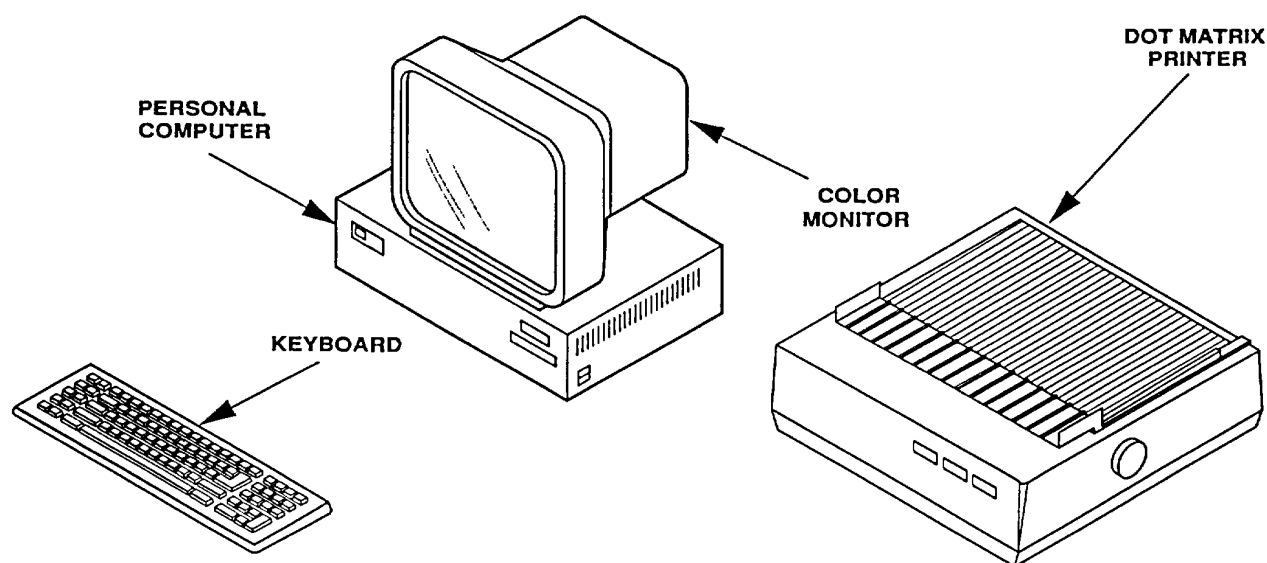

Figure 1-3. IBM-PC/AT Compatible Computer (Typical).
1.11.3 IBM-PC/AT Compatible Computer. Major components (figure 1-3) of computer are as follows: